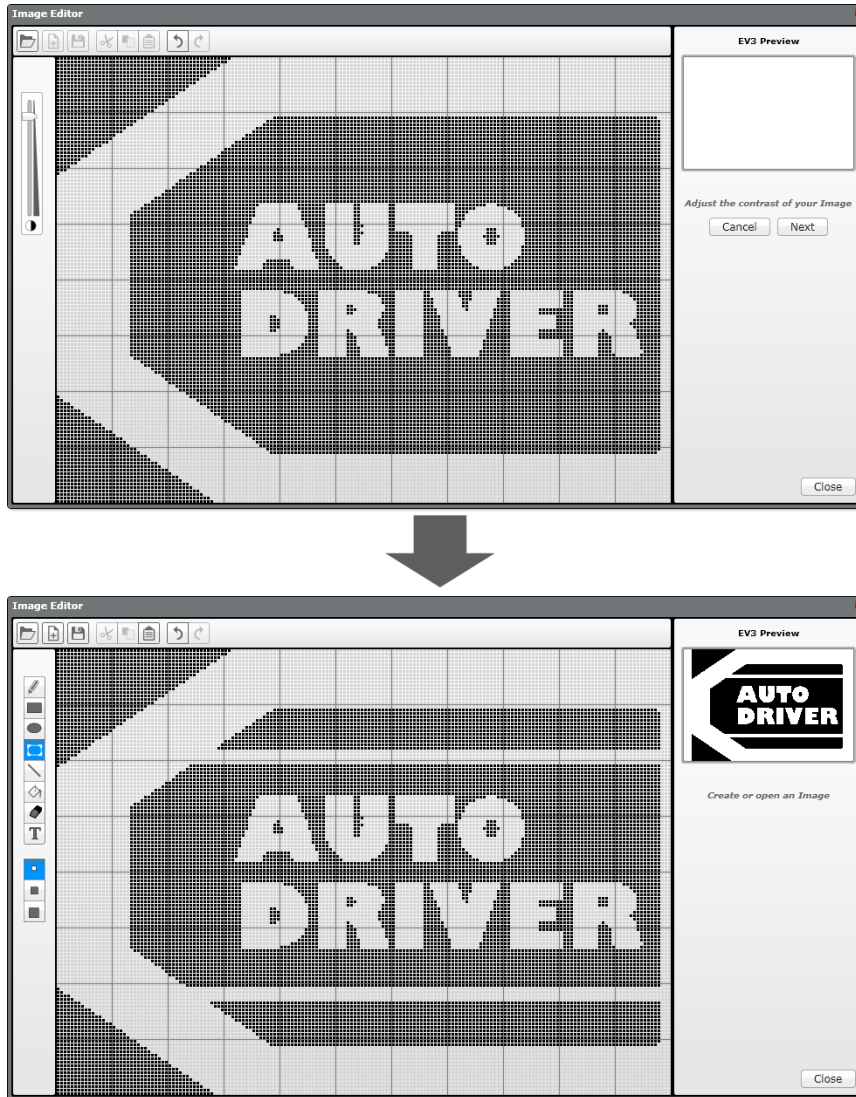

Figure 5-32: Adjust the contrast of the image and then customize it.
4. Click the Next button again to display the editing page where you may customize the image (see Figure 5-32).